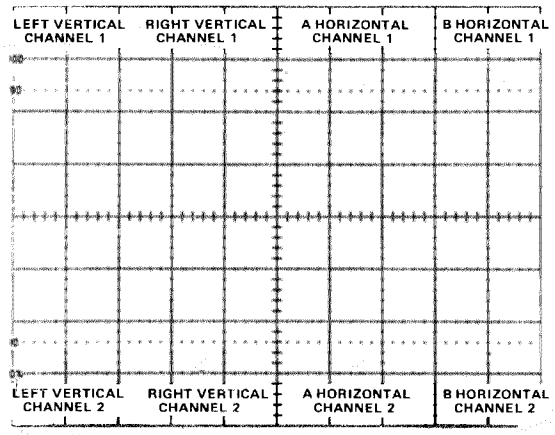
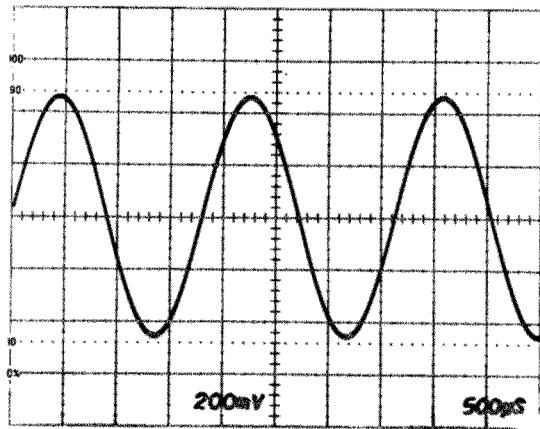

Fig. 3-23. Location of readout display on the crt identifying the originating plug-in and channel.
Fig. 3-25. Typical readout display where only Channel 2 of the Right Vertical and B Horizontal units is displayed.
Frame—A frame is a display of all words for a given operating mode and plug-in combination. Up to eight words can be displayed in one frame. Figure 3-23 shows the position of each word in a complete frame.
Up to eight words of readout information can be displayed on the crt. The position of each word is fixed and is directly related to the plug-in unit from which it originated. Figure 3-23 shows the area of the graticule where the readout from each plug-in unit is displayed. Notice that Channel 1 of each plug-in unit is displayed within the top division of the crt and Channel 2 is displayed directly below within the bottom division. Figure 3-25 shows a typical display where only Channel 2 of the Right Vertical and B Horizontal units is selected for display.
The Format Generator stage provides the output signals to the vertical and horizontal deflection systems of the instrument to produce the character display. The binary Channel Address Code from the Channel Counter stage is connected to this stage, so that the display from each channel is positioned to the area of the crt associated with the plug-in and channel originating the word (see Fig. 3-23). The positioning current or decimal point location current generated by the Decimal Point Logic and Character Position Counter stage is added to the Horizontal (X) signal at the input to the Format Generator stage to provide horizontal positioning of the characters within each word. The X- and Y-Readout signals are connected to the Horizontal Amplifier and Vertical Amplifier through the X- and Y-Buffer stages.